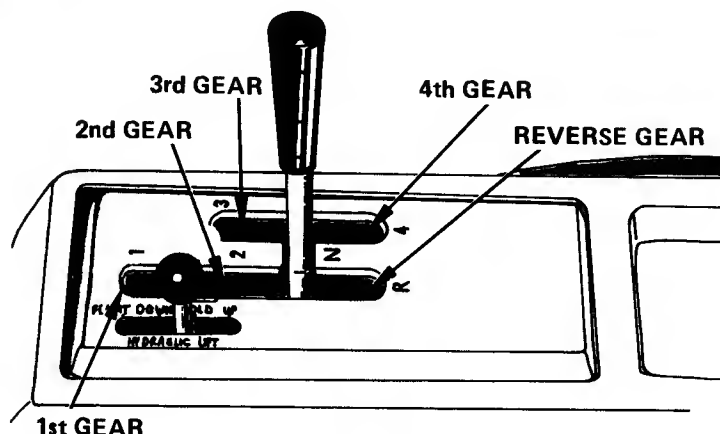

FIGURE 2
- Place the gear shift lever in the "Neutral" position, shown in Figure 2.